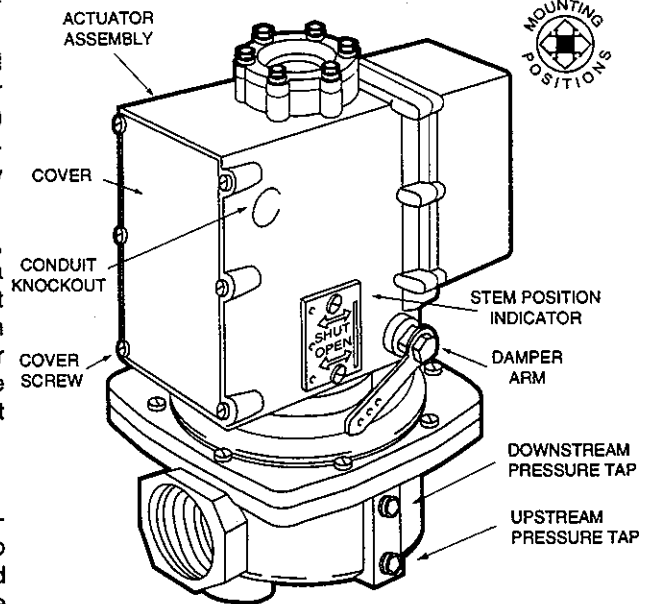
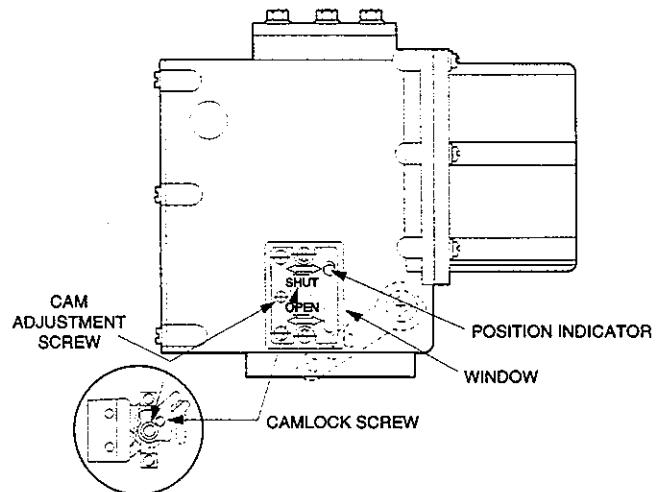

Figure 1. AH2B Actuator (shown mounted on V710 gas valve)
Figure 4. Auxiliary Switch Adjustment
1. Remove the window (Figure 4).
1. **Turn off power supply.** Remove the six cover screws and the cover plate (Figure 1).
1. **Turn off power.** Remove six cover screws and the cover plate (Figure 1). Remove window (Figure 4).